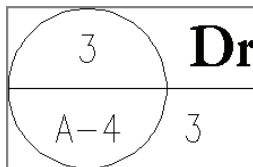

FIGURE 10.13
2. Double-click the text in the lower semicircle of the drawing title symbol to invoke the DDEDIT command. The number 3 is highlighted. Type **A-4**, click outside the editing window on the drawing canvas, and press Esc to stop editing. The bubble now references the hypothetical drawing 3 on sheet A-4 (see Figure 10.13).